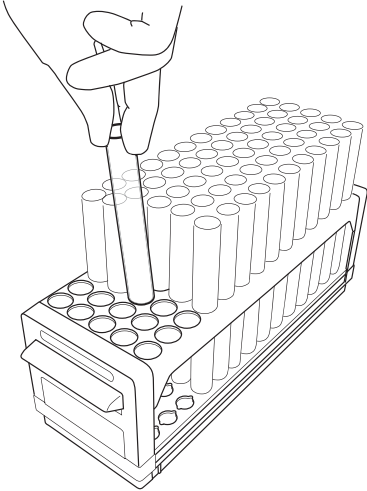

Figure 3-6 Loading test tubes
1. Insert test tubes, vials, or bottles into the rack (Fig. 3-6).